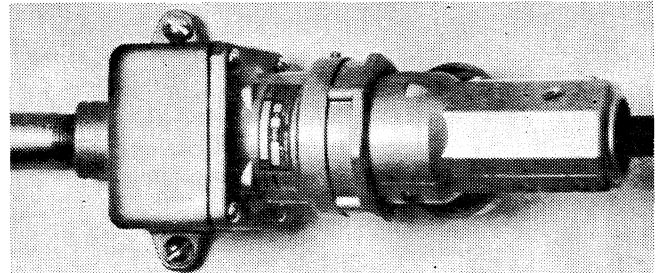

FIGURE 7. APJ PLUG IN AR RECEPTACLE ON BACK BOX
1. Insert plug into receptacle, aligning groove in plug with boss in receptacle. Seat plug completely. (See Figure 7.)